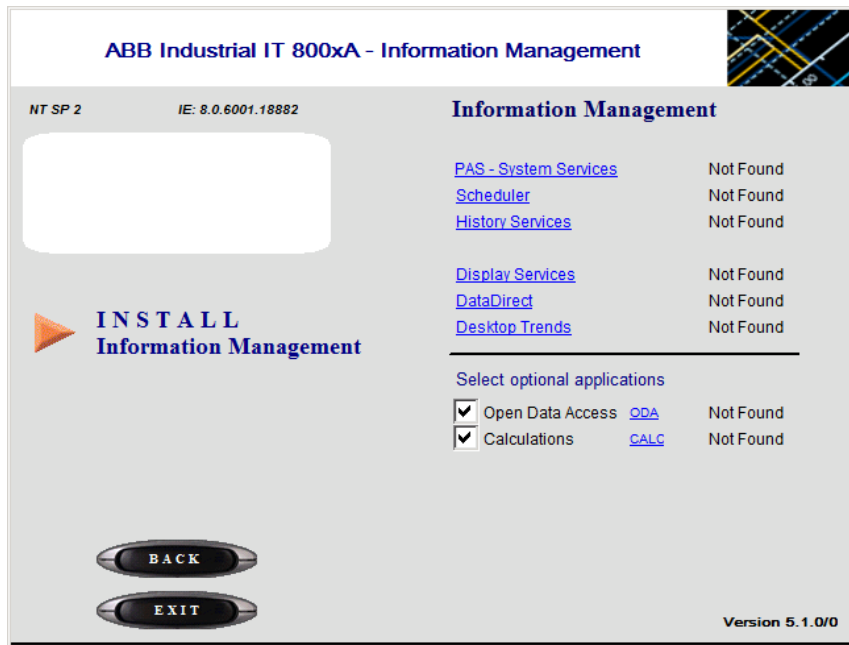

Figure 48. Information Management Install Dialog Box for IM Server
4. Click **Continue** to continue installing the Information Management software. This displays the Information Management Install dialog box (Figure 48).